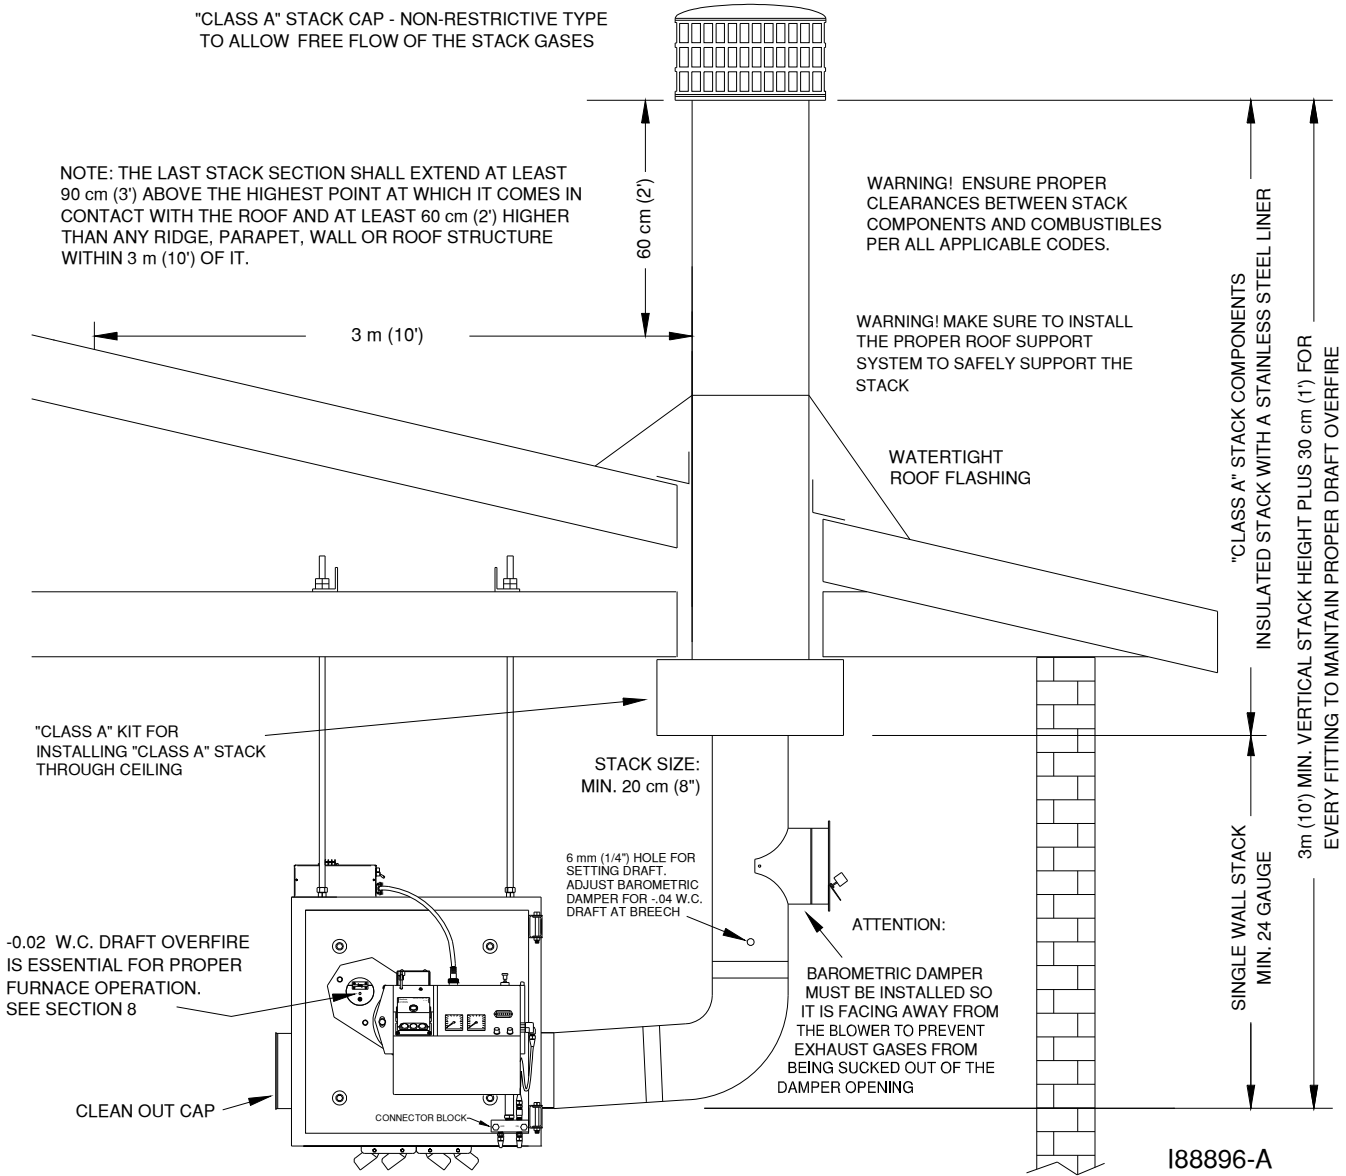
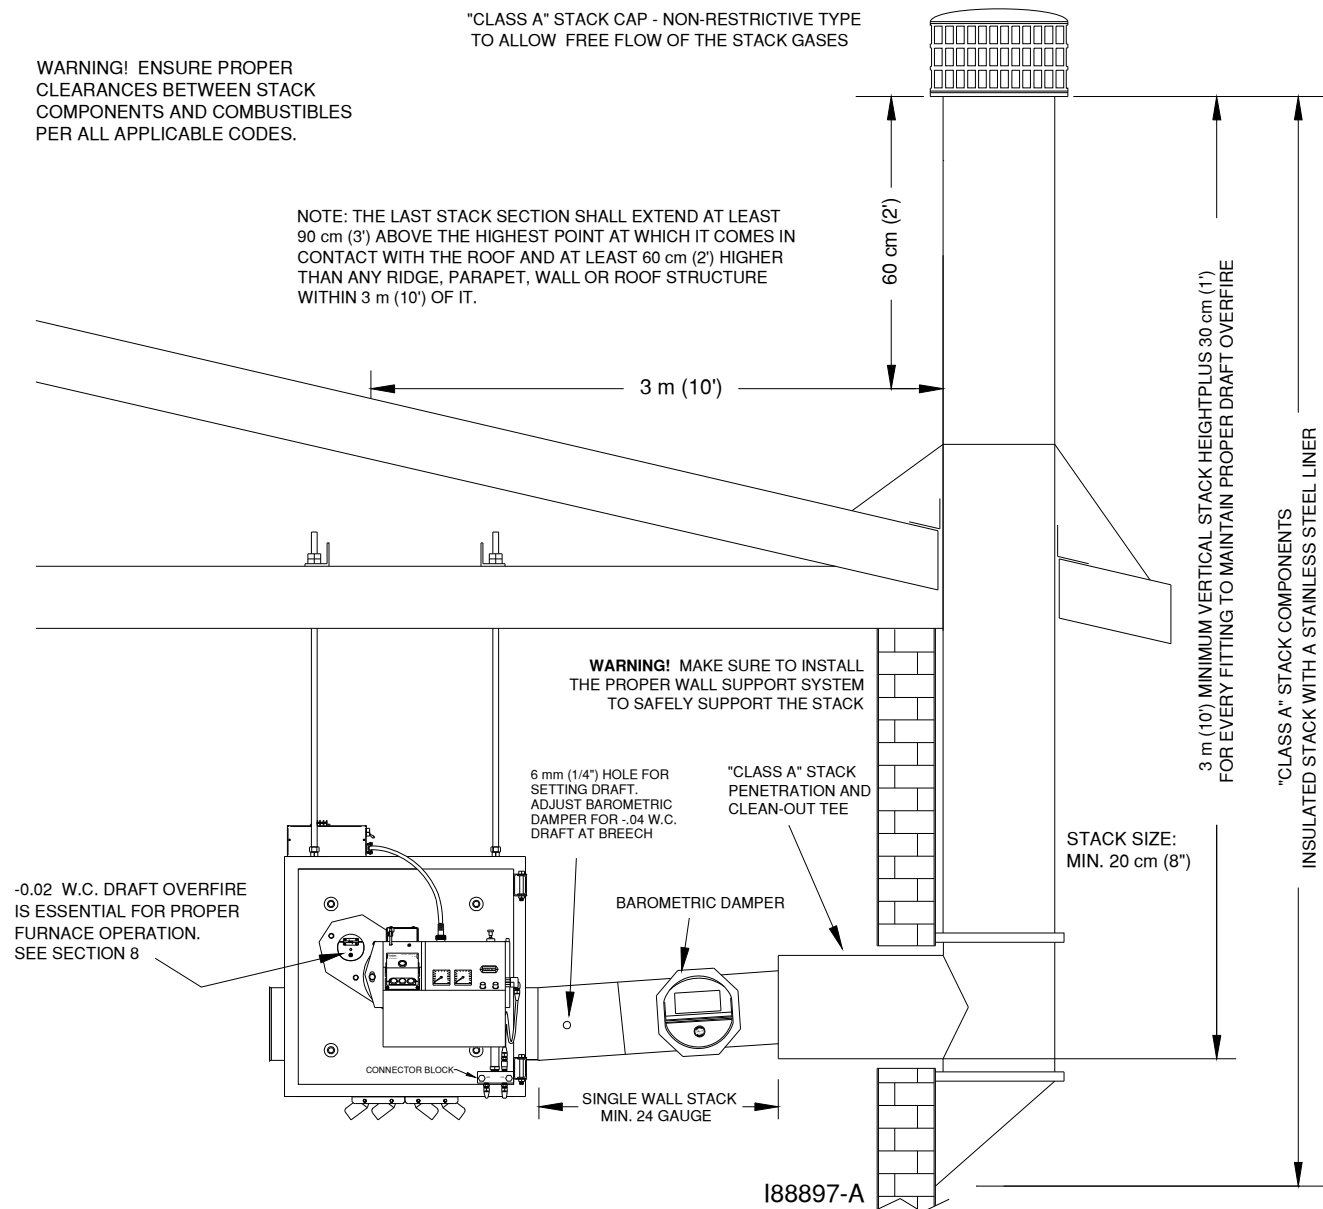

Figure 4L - CB-1500 Installation of "Class A" Stack Through Roof/Ceiling (CB-2500 is similar)
Figure 4M - CB-1500 Installation of "Class A" Stack Through Sidewall
- (1) "Class A" stack through the ceiling of the building. Refer to Figure 4L.
- (2) "Class A" stack through the sidewall and up the side of the building. Refer to Figure 4M.
Figures 4L and 4M illustrate these stack designs. Choose the stack design which is appropriate for your furnace installation and review all specifications provided in the related illustrations. When designing your stack, adhere to the following specifications:
1. Refer to Figure 4L. Install a single wall tee (min. 24 gauge) after the 90-degree elbow in the straight vertical stack section within 90 to 150 cm (3 to 5 feet) of the furnace breach. For horizontal stack runs (Figure 4M) install the tee after the first straight section of pipe.
1. Refer to Figure 4L/4M as needed.
1. Refer to Figure 4L/4M as needed. Your stack cap should be classified as: "Class A" non-restrictive, All-Fuel type.